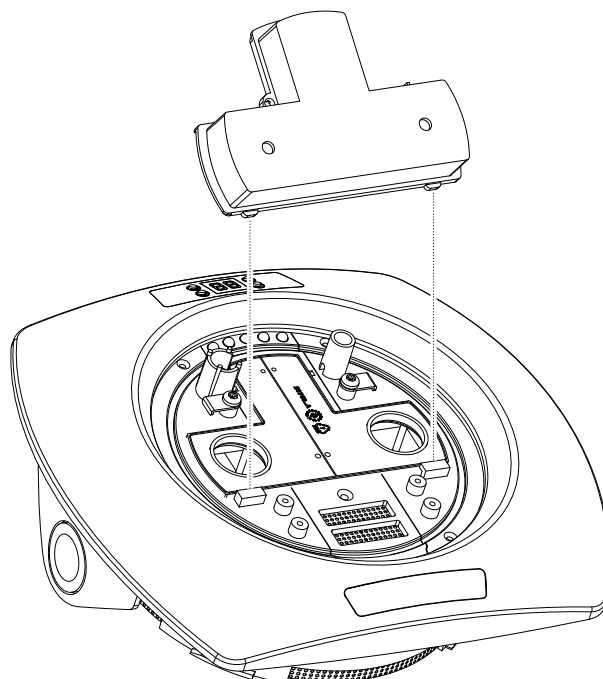

Figure 8-5: Filter insertion
2. Tilt the new filter and align to the insertion guides (Figure 8-5) and lower filter into place.